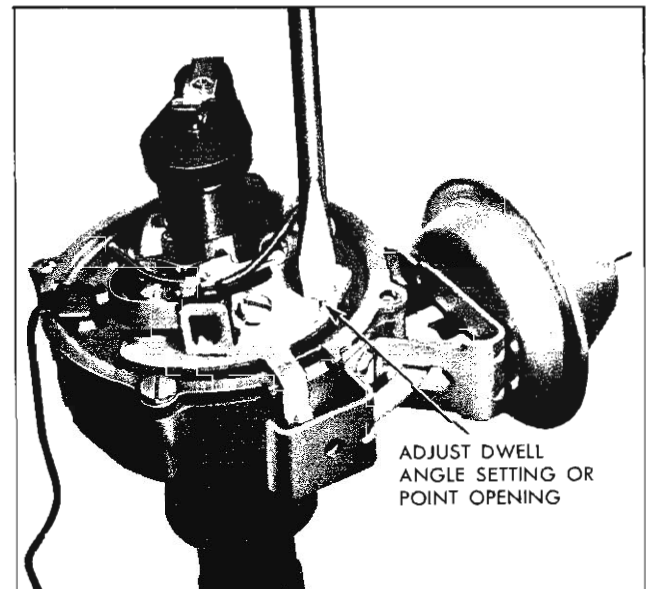

Fig. 44—Setting Point Opening
9. Set point opening (.019" for new points) (fig. 44).
4. Disconnect vacuum line from vacuum control assembly, remove distributor hold-down bolt and clamp, remove distributor from engine. Note position of vacuum advance assembly relative to engine for correct reinstallation (fig. 44).